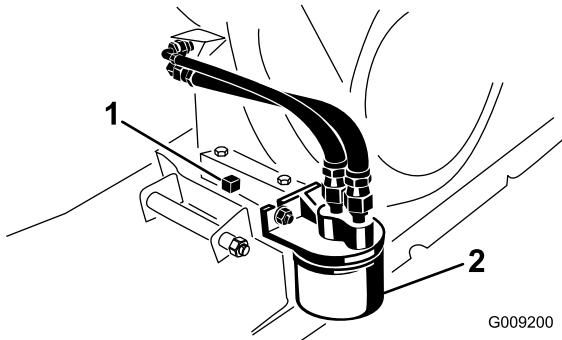

Figure 32
6. Remove the drain plug and seal (Figure 32).
2. Remove the existing oil filter (Figure 32).
4. Thread the new filter onto the filter adapter until the gasket contacts the mounting plate, then tighten the filter an additional 1/2 to 3/4 turn further (Figure 32).